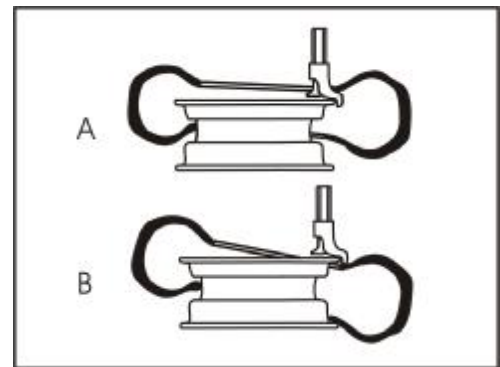
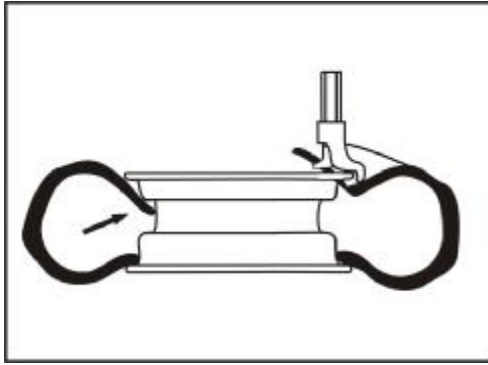

Fig.15
Fig.16
- I To install the upper tyre bead and adjust position of the tyre bead (same as mount of the lower tyre bead in Fig. 15). Draw out the roller and keep its side surface 1—2cm away from margin of the rim. Place the press block on the upper bead 20cm clockwise away from the mount/demount head. Press the control lever to make the press block go down 5—7cm to press the sidewall by hands to seat tyre bead into the rim groove (Fig. 16).